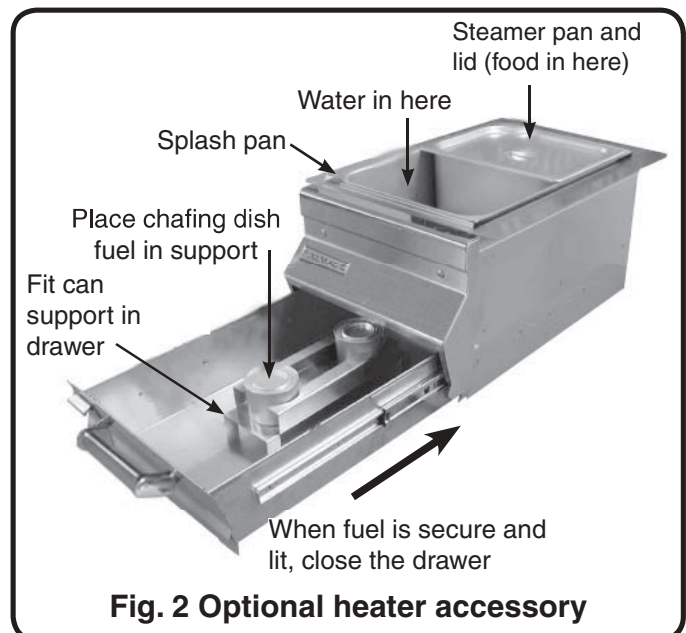

Fig. 2 Optional heater accessory
Step 4. Fit can support (Item 1) into the slots in the drawer (see Fig. 2). **Ensure it is secure.**